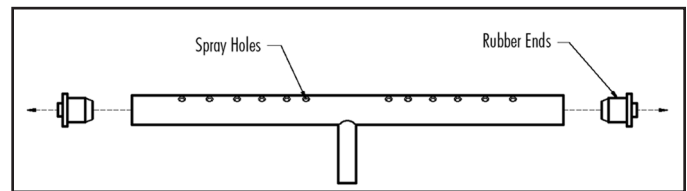

Fig. 09
- C. Add the recommended cleaning solution to the reservoir of the ice maker. Access to the reservoir can be obtained by removing the front panel screws and the front panel. Determine the proper amount of cleaner from the ice maker cleaner manufacturer's mixture ratio based on three (3) quarts of water (refer to the manufacturer's directions).
- E. Switch the selector switch on the grille of the ice maker to the "CLEAN" position. Three (3) quarts of water will automatically be added to the cleaning solution.
- I. Thoroughly clean the inside of the distributor tube and the spray holes. You can use the same cleaning solution as before and an old toothbrush to reach the inside of the distributor tube (Fig. 09).
- J. Reinstall the rubber ends, hose, and hose clamp to the distributor and then reinstall the distributor tube to the evaporator with the spray holes pointed to the bottom of the evaporator plate. Reinstall the front cover panel with the two (2) front panel screws.
- K. Clean the ice maker's interior, ice scoop, interior door panel and door gasket with mild soap and water. Using two (2) tablespoons of baking soda in one (1) quart of warm water while cleaning will help remove odors. Rinse with fresh water. **DO NOT USE ANY ABRASIVE CLEANING PRODUCTS.**